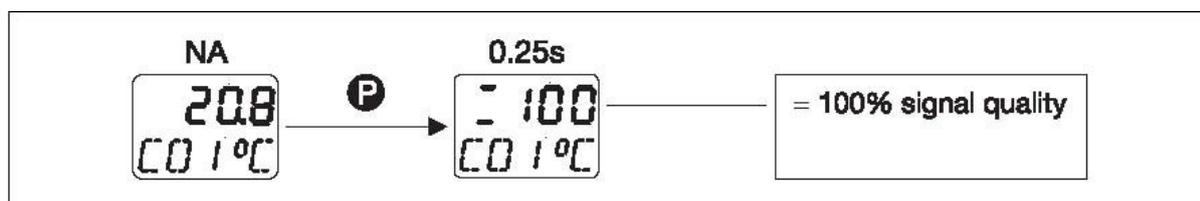

Figure 21: Signal quality display
Key **P** is used to show the signal quality of the current channel in percent in the standard display (NA) (see Figure 21, 100%). The display range between 0 and 100 % is displayed in increments.